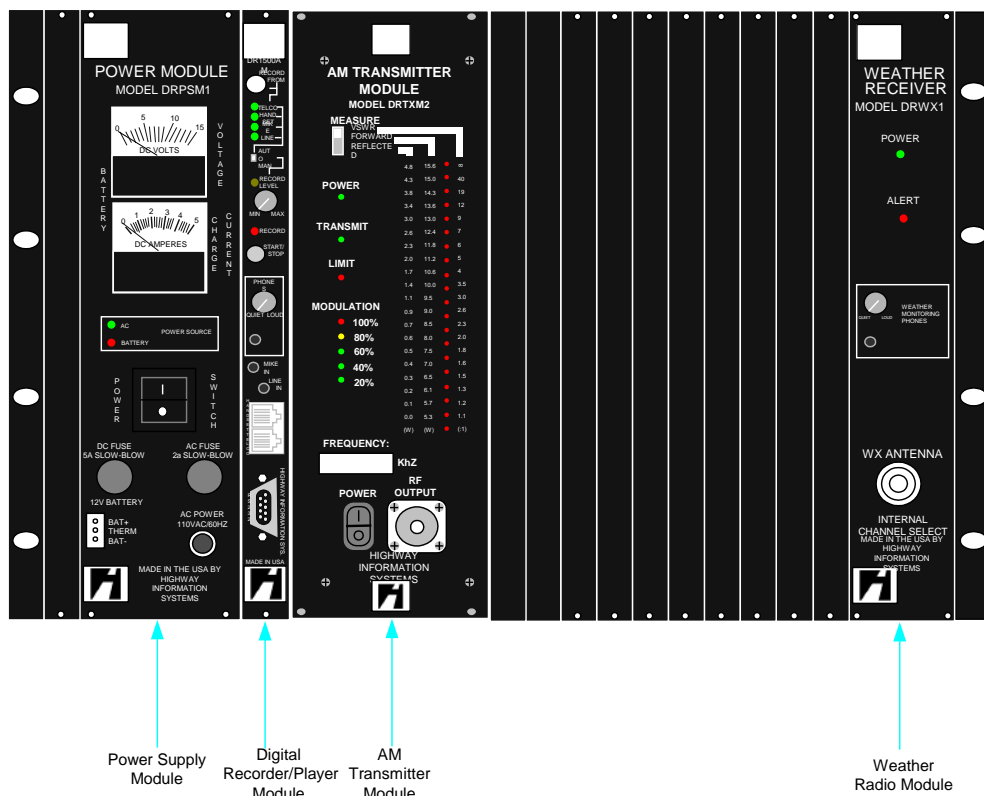

Figure 1 - Black Max™ Modules.
The Black Max™ is a modular unit (see Figure 1) currently consisting of four (4) modules: Power Supply Module DRPSM1, AM Transmitter Module DRTXM4, DR1500AM Digital Recorder/Player and the Weather Receiver Model DRWX1. Each of these units is described in later sections of this manual. Future expansion capability has been designed into the Black Max™.